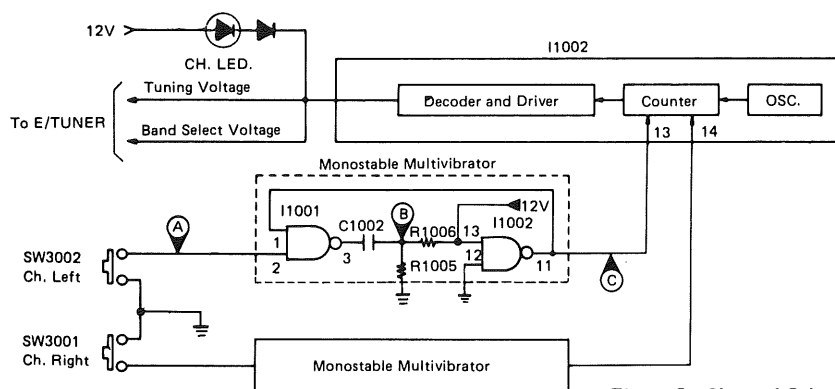

Figure 3. Channel Selection Circuit
### MANUAL CHANNEL SELECTION (Refer to Fig. 3)
When the channel LEFT shift switch (SW3002) is pushed on, +B1 voltage is applied to pin ② of NAND gate IC that works as a monostable multivibrator whose logical operations are shown in Fig. 3: the rising or falling edge of the pulse from the switch will produced a specified signal out of pin ③. The pulse width of this output signal is decided by the time constant provided of C1002 and R1005; R1006 is used to prevent an excess of discharge current coming from C1002. The output pulse from pin ⑪ of the NAND gate IC, then enters pin ⑬ of the channel sensor IC (I1002): a precise control of this IC1002 assured by the clock oscillator circuit included in. The clock oscillation frequency of 3 kHz by R1015 and C1009. With the negative pulse entering pin ⑬ of the I1002, the counter (inside the I1002) moves one channel LEFT, and one of the pins (① to ⑨, and ⑱ to ⑳) which corresponds to the new channel goes to a "Low" level, so that tuning voltage and band select voltage are applied to the electronic varactor tuner, with the channel indicator LED lighting up.